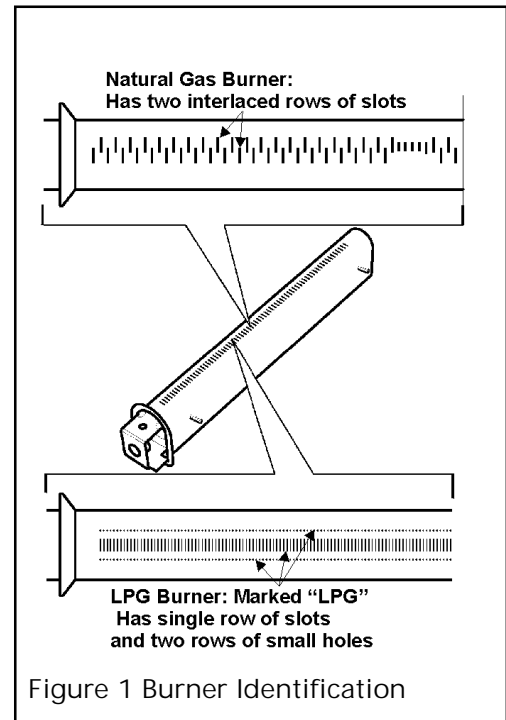

Figure 1 Burner Identification
- 1 Burner unit including elbow injector (Cat 92 Size 160) and aeration shutter (See figure 1 for identification)